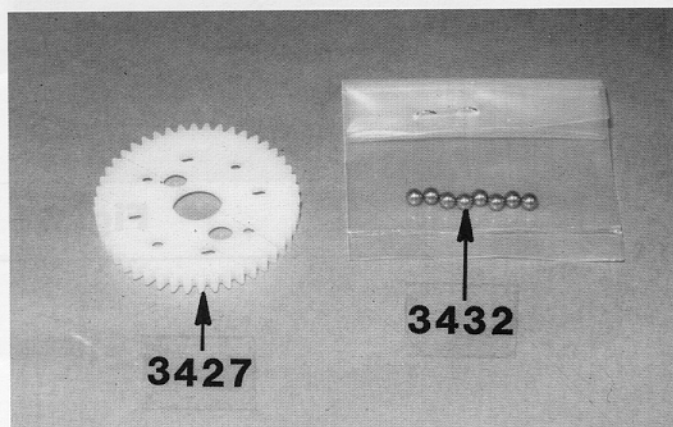

Fig. 60
□ **Fig. 60**—Open Bag #8. Take the #3432 diff (differential) balls out of the plastic bag and pop them into the #3427 spur gear.